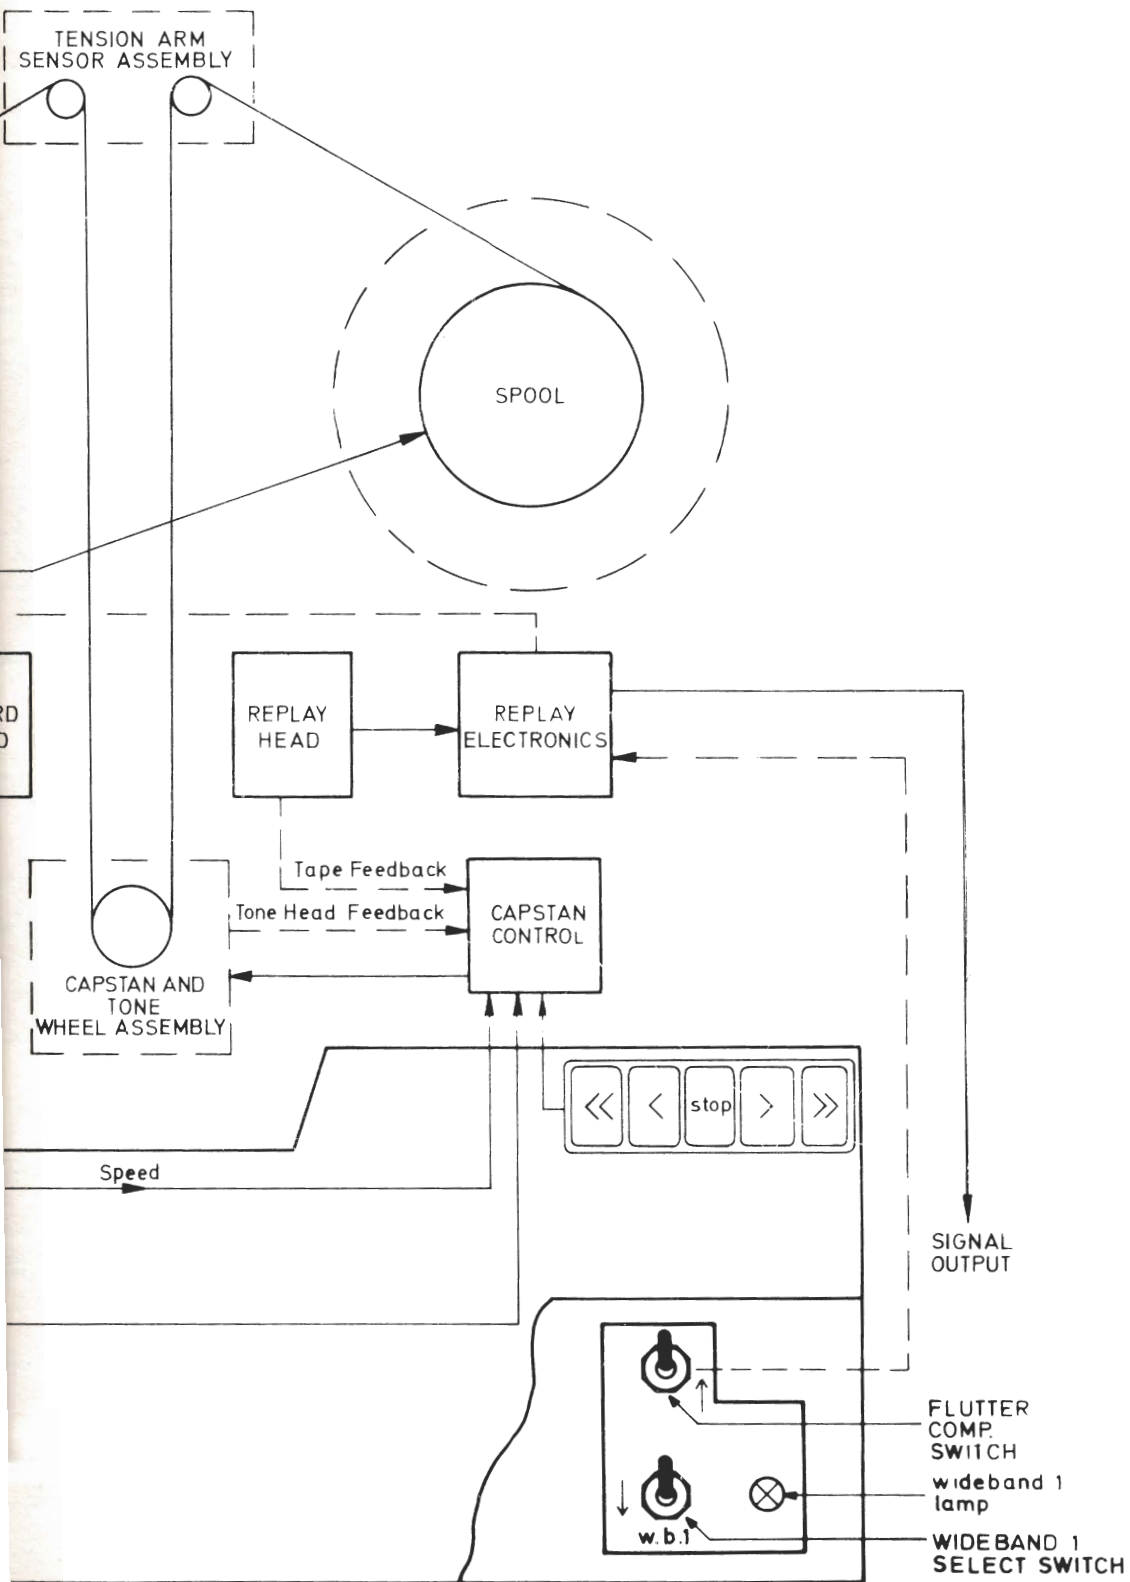
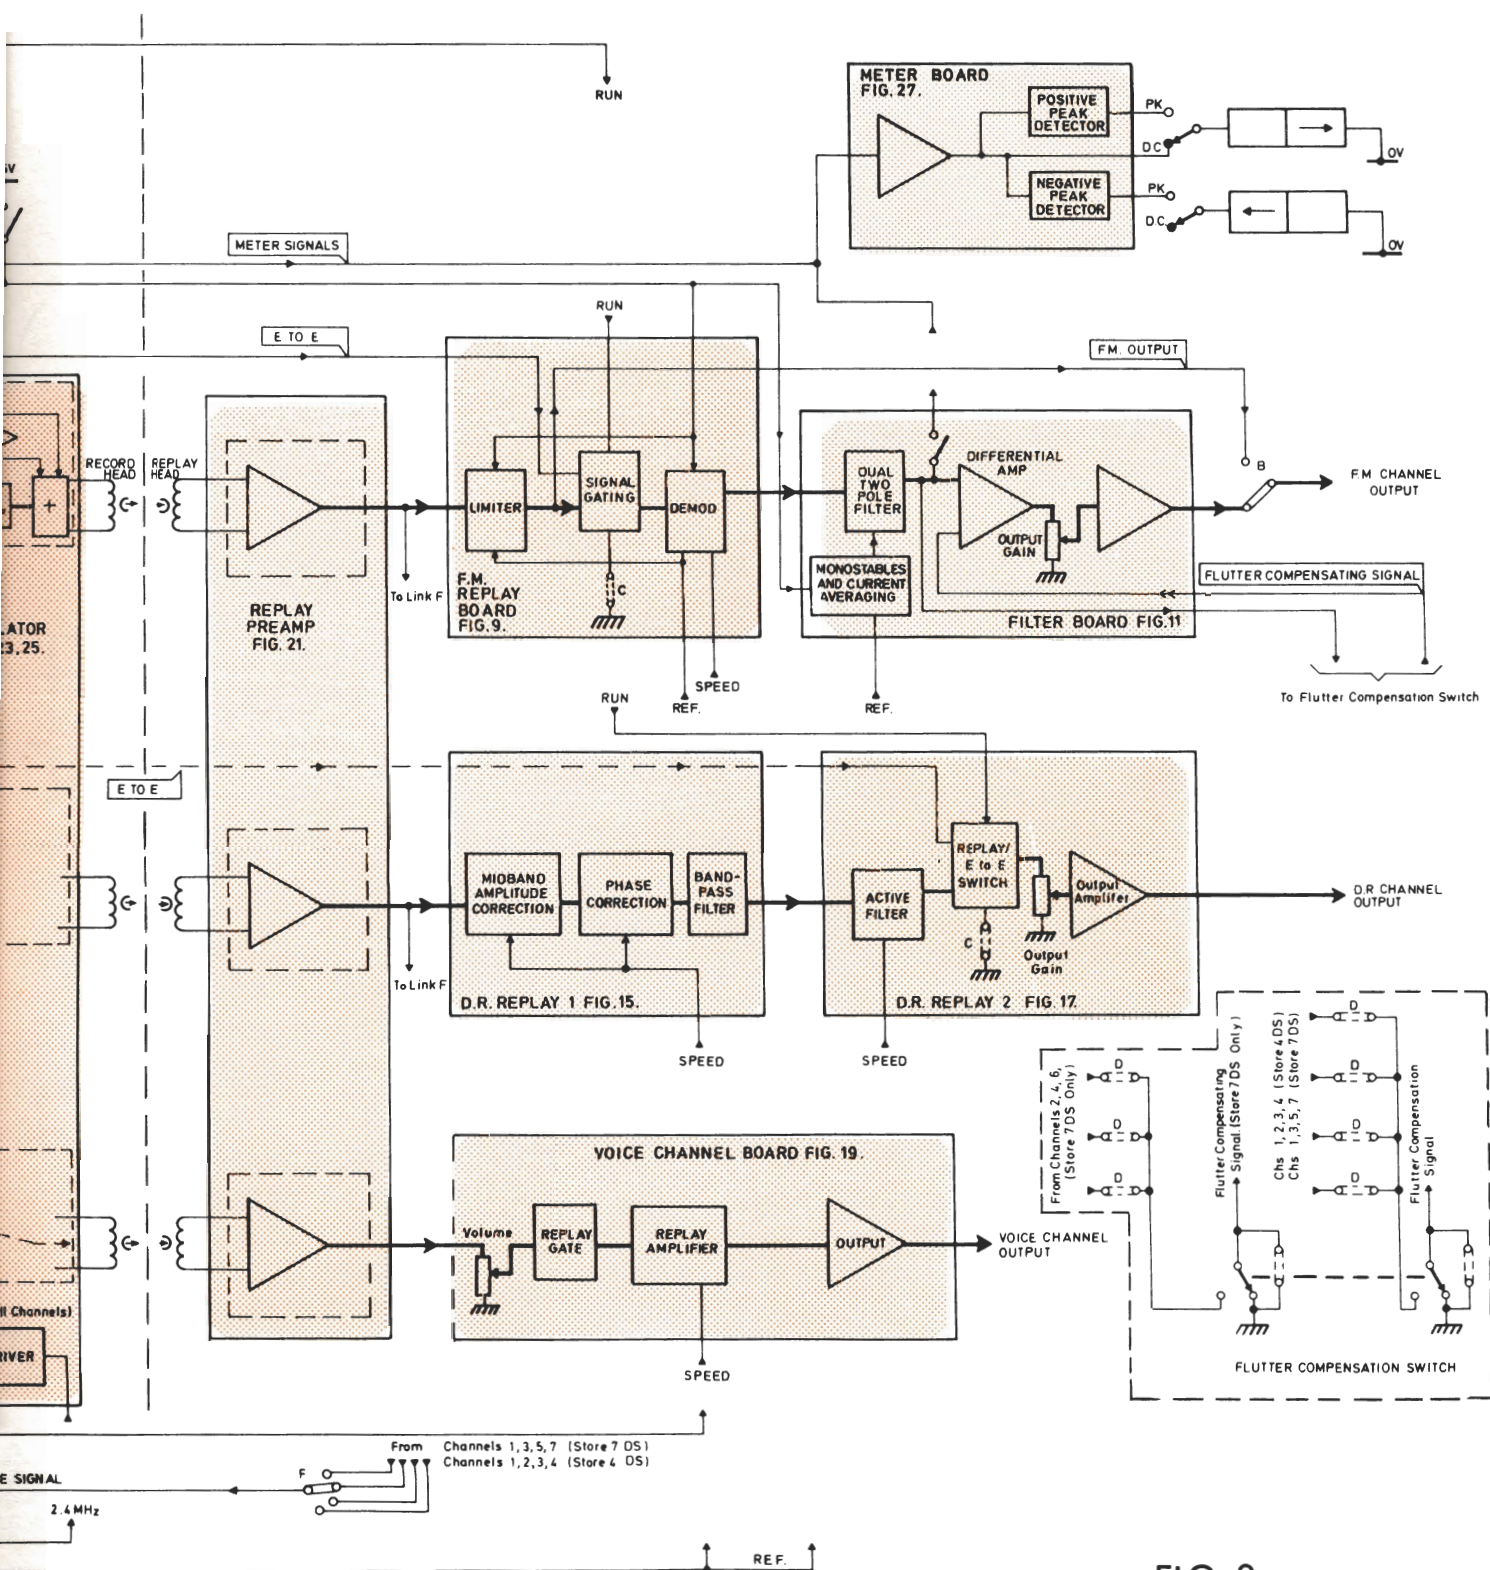

FIG. 1
FIG. 2
2. Figure 1 shows the relationship between the basic controls and the systems within the equipment. Figs 2 - 5 describe the operation of the three main sub systems, namely record/replay, tape transport and power supply circuits. The Block Diagrams also act as an index for the individual circuit boards they describe.